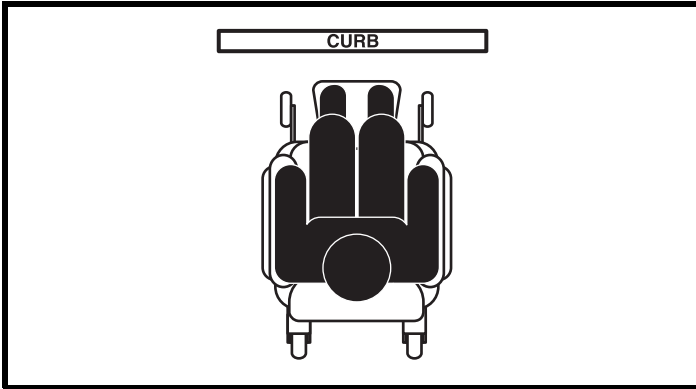

Figure 2. Correct Curb Approach
1. Approach the curb or obstacle slowly, and make sure the power chair is traveling perpendicular to the obstacle. See figure 2.
1. Approach the curb or obstacle slowly, and make sure the power chair is perpendicular to the obstacle. See figure 2.